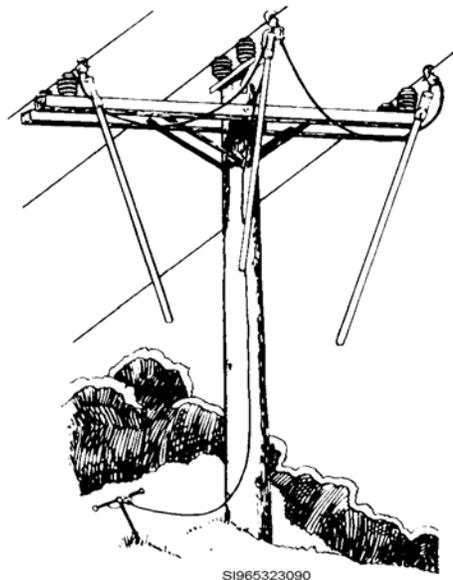

Figure 1, Installed Grounding Set
1. Background: Whenever possible, we de-energize lines before we work on them. Before you work on de-energized lines, test for any potential and proper grounding. Air Force grounding devices must have clamps permanently attached to the cable. Even when line terminals have grounding switches for preliminary grounding, you must use an approved grounding set. Grounding devices must be large enough to carry the induced current and maximum fault current that could flow at the point of grounding for the time necessary to clear the line. Clamps attached to the “hot end” of the cable may have insulated sticks permanently attached or be operated by an insulated grip-all or rigid splice stick. The grounding cable must be 600-volts insulated rubber or synthetic-covered flexible copper. Figure 1 shows one type of approved grounding set used in-group grounding method.